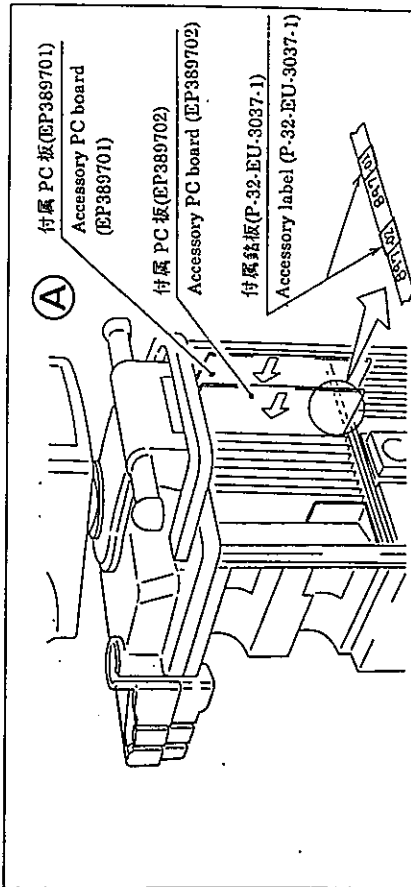
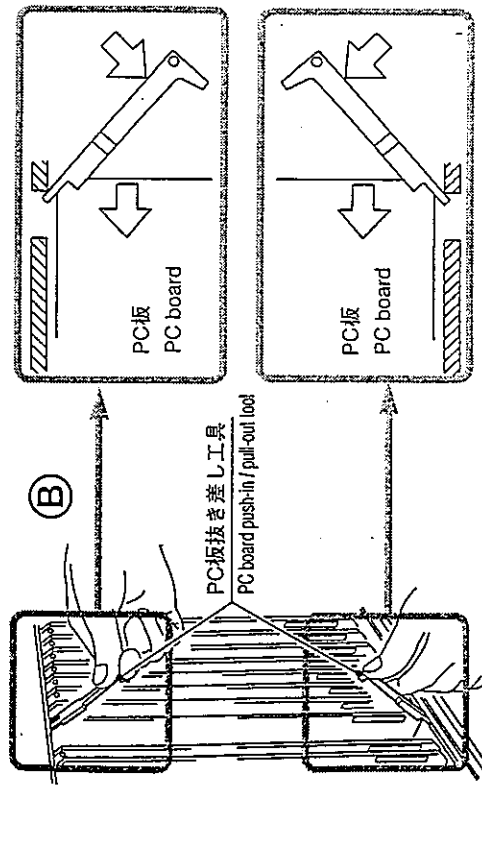

図4 Fig.4
図5 Fig.5
- (4) 付属銘板(P-32-EU-3037-1)を図のように右から8,9番目のスロット銘板の上に貼り、付属PC板(EP389701,EP389702)2枚を順番に右から8,9番目のスロットへ差し込む。(図4Ⓐ)
- (5) PC抜き差し工具2個のツメをPC板スロット手前の角穴に引っ掛け、図のようにPC板を確実に押し込む。(図5Ⓐ)
- ※ Operation label attaching of (4) below is applicable only to SSD-1700 whose bodies are S/N: ~6200555, S/N: ~9690709 .
- (4) Attach accessory label(P-32-EU-3037-1) on slotlabel at 8th and 9th slots as counted from the right shown below, and insert two accessory PC boards (EP389701,EP389702) into 8th and 9th slots as counted from the right in that order. (Ⓐ in Fig.4)
- (5) Put 2 claws of PC board push-out on square hole in front of PC board slot and securely push in PC board as illustrated. (Ⓑ in Fig.5)